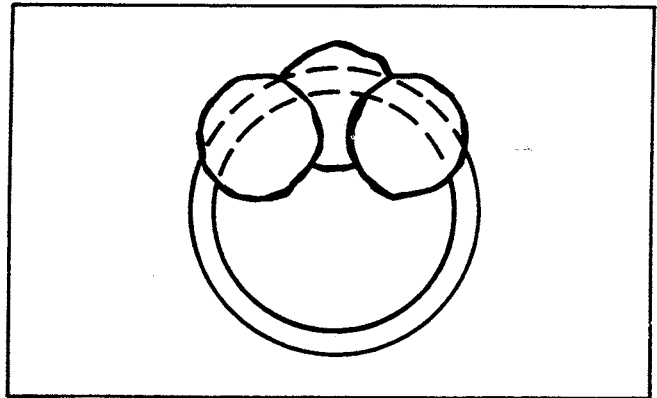

Figure 30
3. Make another short, tack weld on each side of the first and let them cool. See Figure 30